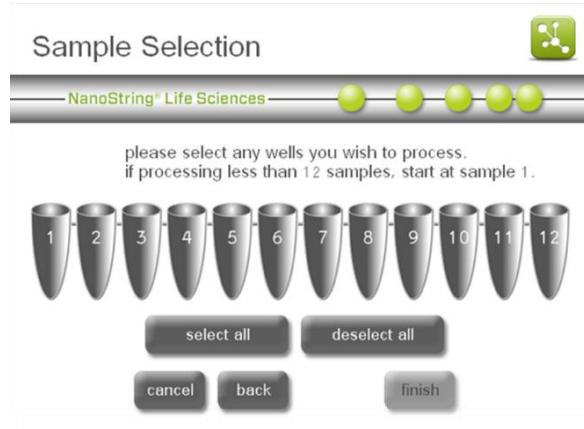

Figure 132: The ‘Sample Selection’ screen.
3. The ‘Sample Selection’ screen will appear (**Figure 132**). After selecting the samples to be processed, press **finish**.